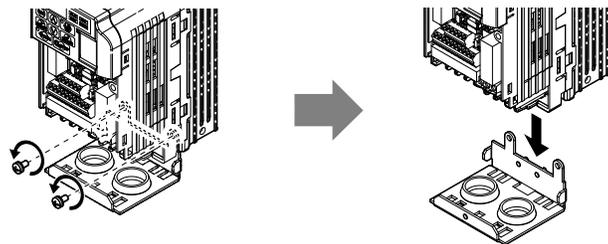

**Figure 8 Remove the NEMA Type 1 Terminal Cover
6. For IP20/NEMA Type 1 enclosure models CIMR-V□□A□□□□F, loosen the screw on the front of the NEMA Type 1 terminal cover and remove it from the drive. Refer to Figure 8 for details.